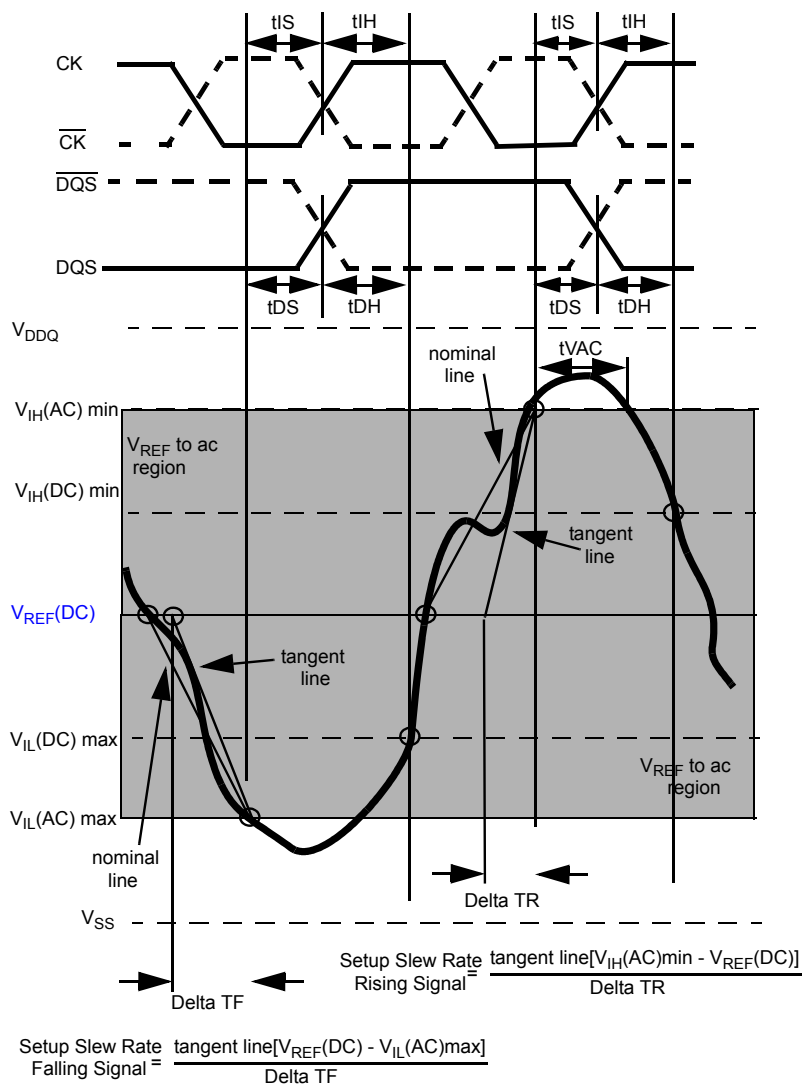

Figure 23. Illustration of tangent line for setup time tDS (for DQ with respect to strobe) and tIS (for ADD/CMD with respect to clock)
the slew rate between the last crossing of V_{REF}(DC) and the first crossing of V_{IL}(AC)max. If the actual signal is always earlier than the nominal slew rate line between shaded 'V_{REF}(DC) to ac region', use nominal slew rate for derating value (see Figure 23). If the actual signal is later than the nominal slew rate line anywhere between shaded 'V_{REF}(DC) to ac region', the slew rate of a tangent line to the actual signal from the ac level to dc level is used for derating value (see Figure 25).